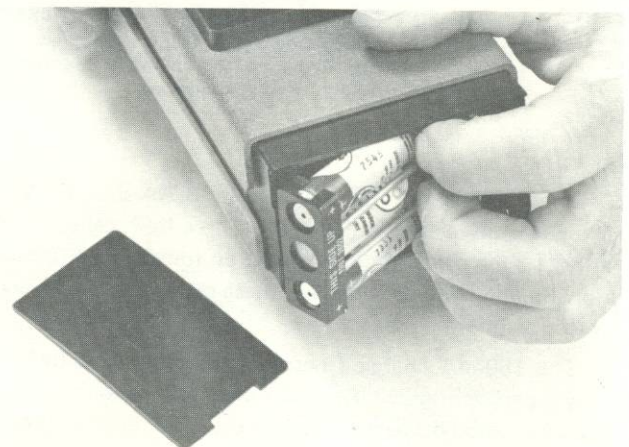

Figure 2-5. Removal of 1981-2050 battery pack.
- b. Place the finger tips on the end of the battery pack in contact with the coil springs; push down and toward the springs such that the other end of the pack raises from the battery compartment, as shown in Figure 2-5.
- b. Remove each cell individually as described in step b above, and as shown in Figure 2-5 for the battery pack.